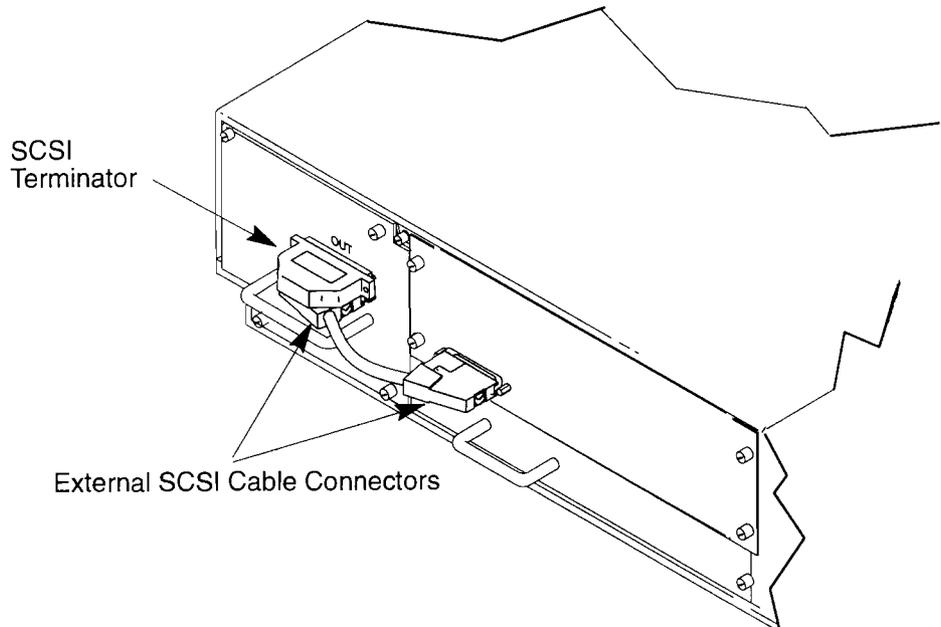

Figure B-16. Disconnecting the External SCSI Cable
Disconnect both ends of the external SCSI cable by squeezing the clips on either side of each connector and pulling out the connector (see Figure B-16).
3. Disconnect the SCSI terminator, if there is one, or any external SCSI device cable that may be connected in the position of the terminator (see Figure B-16).